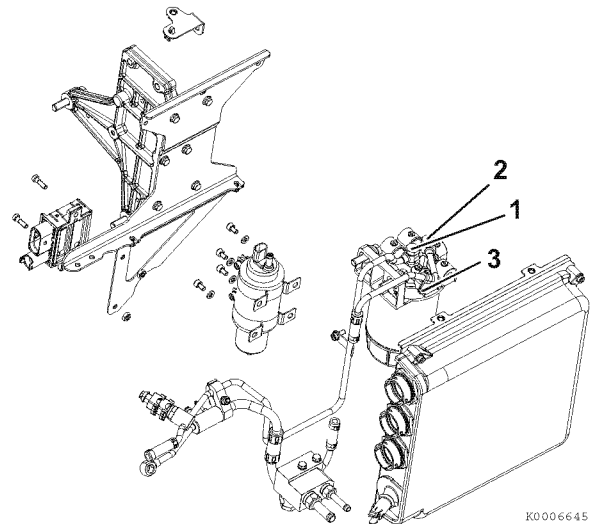

Figure 5-132
- Install fuel fine filter. Connect inlet (1, **Figure 5-132**) and outlet (2, **Figure 5-132**) hoses.
7. Secure inlet line clamp (3, **Figure 5-132**).